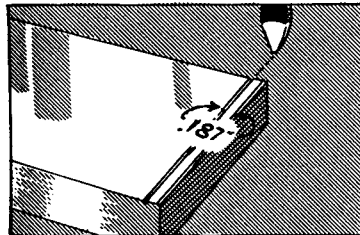

FIG. 485
6. Move the work $.187''$ to the right as shown in Fig. 485. (This is an assumed distance between the grooves.)
8. Start the machine and cut the first groove (Fig. 485).